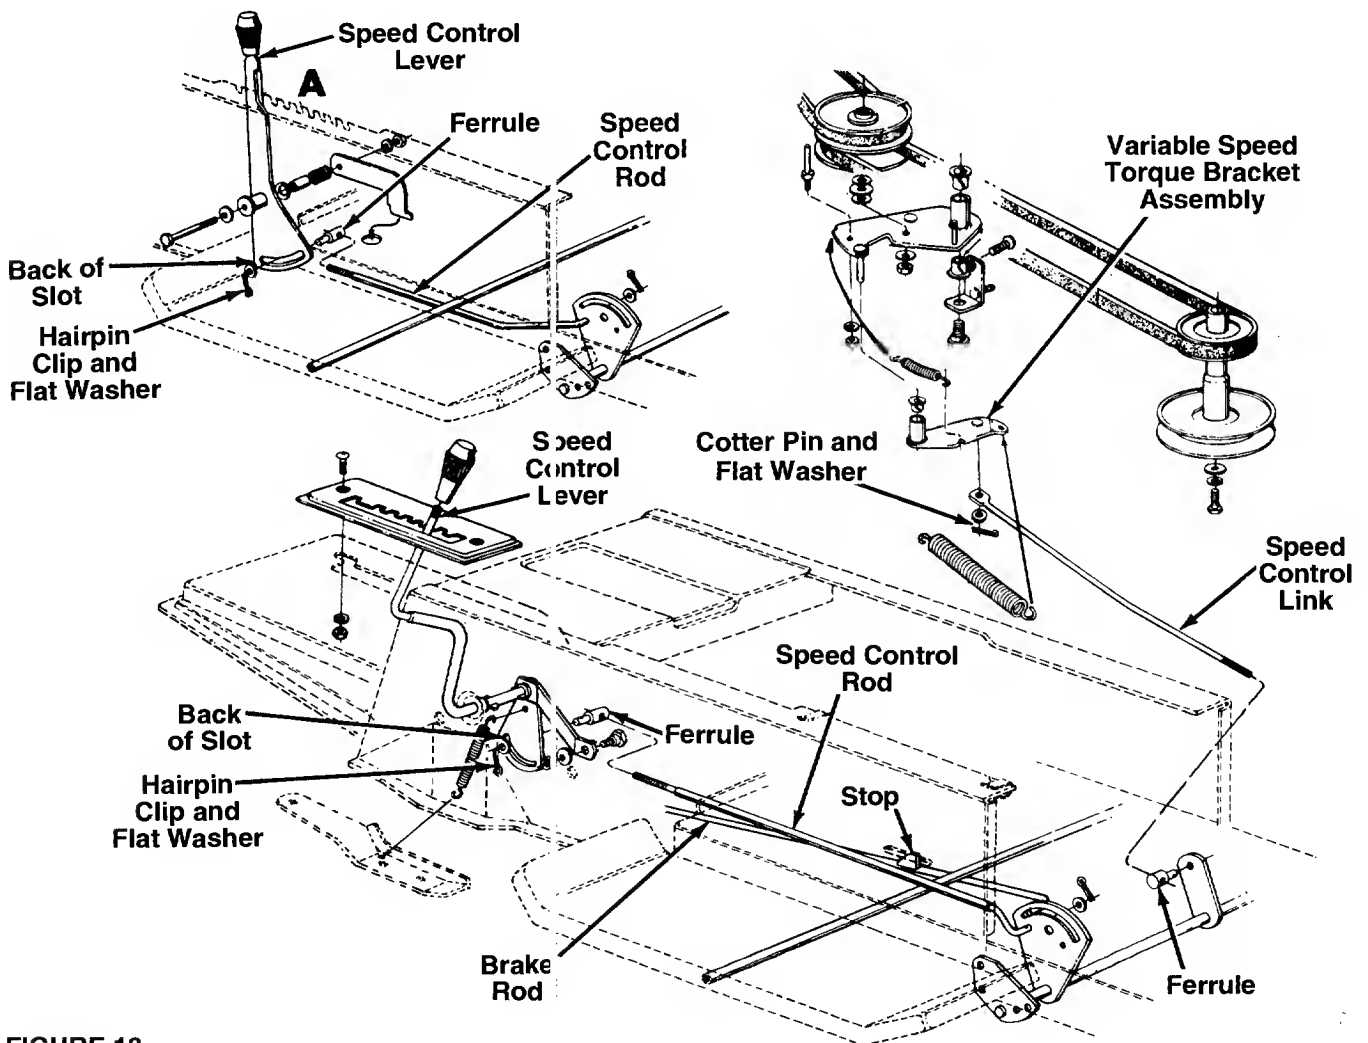

FIGURE 13.
SPEED CONTROL ADJUSTMENT (See figure 13)
1. Adjust the speed control lever by pushing the clutch-brake pedal forward until the stop on the brake rod is against the frame. See figure 13. Have another person hold the pedal in this position as you make the following adjustment. Place the speed control lever in parking brake position. Remove the hairpin clip and flat washer, and adjust the ferrule on the rod so it is against the back end of the slot. See figure 13. Then lengthen rod one more turn. Reassemble and secure with the flat washer and hairpin clip.